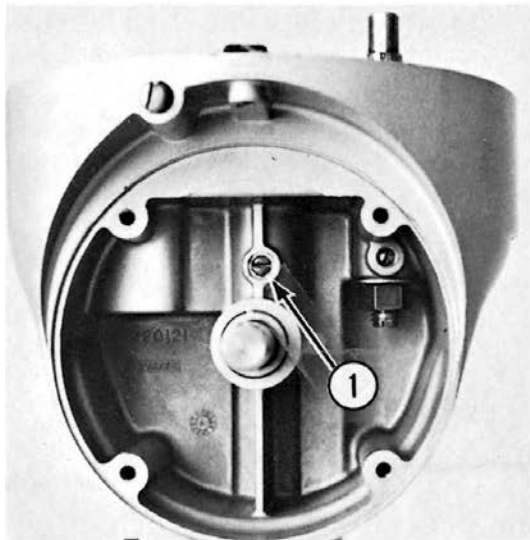

Fig. 3-13
- J. Loosen, but do not remove the set screw (1, Fig. 3-13) which secures the lower transmission shaft in place.